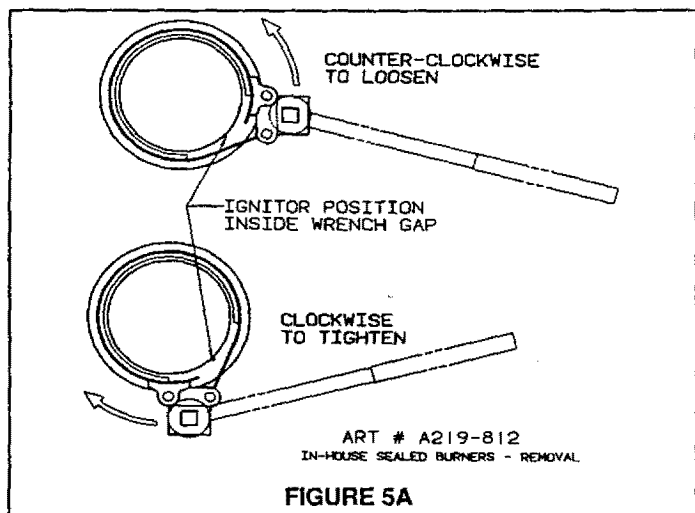
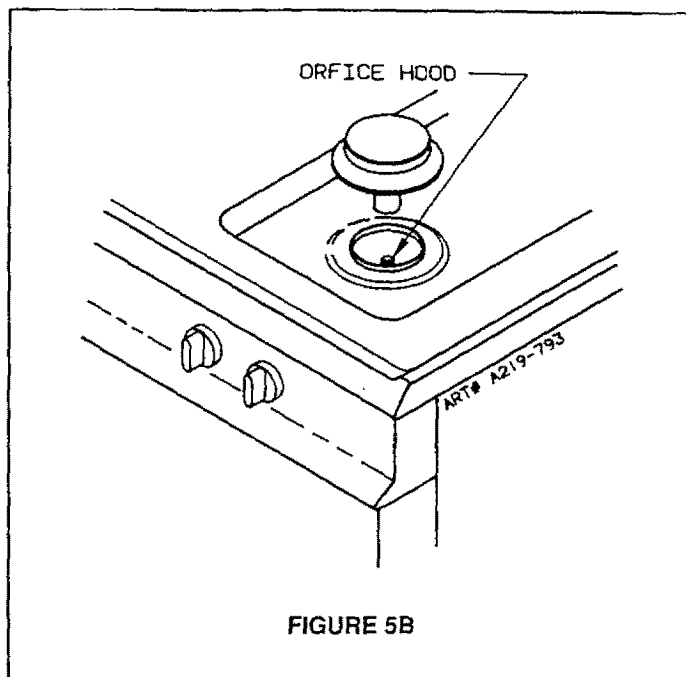

FIGURE 5A
FIGURE 5B
If it should be necessary to check the manifold gas pressure, remove right rear burner assembly by placing burner wrench (part no. 8002P026-60, available from your dealer or authorized service agency\*) over surface burner assembly with ignitor positioned inside gap in wrench ring (figure 5A). This prevents ignitor from being crushed when wrench tightens on burner assembly. Rotate burner assembly approximately one-eighth turn counter-clockwise and lift from main top (figure 5B). Connect manometer (water gauge) or other pressure device to the top burner right rear orifice hood, using a rubber hose with inside diameter of approximately 1/4" inch, hold tubing down tight over orifice hood. Turn burner valve on. For an accurate pressure check have at least two (2) other top burners burning. Be sure the gas supply (inlet) pressure is at least one inch (1") above specified range manifold pressure. The gas supply pressure should never be over 14 inches water column. When properly adjusted for Natural Gas the water column pressure is 4", for LP Gas the water column pressure is 10". Replace burner assembly in main top and rotate approximately one-eighth turn clockwise using burner wrench until burner locks into position with ignitor facing rearward.